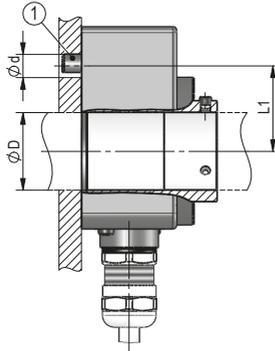
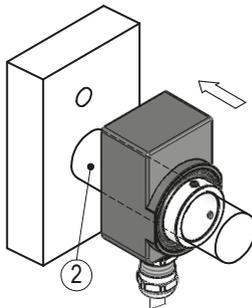
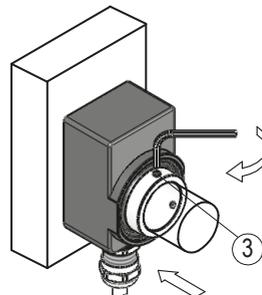

Fig. 1: Mounting dimensions
Fig. 2: Mounting
Fig. 3: Fastening torque for grub screw
- ▶ Ensure a low shaft and angle offset between shaft and accommodation bore by applying appropriate manufacturing methods (see Fig. 1 + Tab. 1).
Preparing mounting (Fig. 1, Fig. 2, Fig. 3):
Mounting (Fig. 1, Fig. 2, Fig. 3):